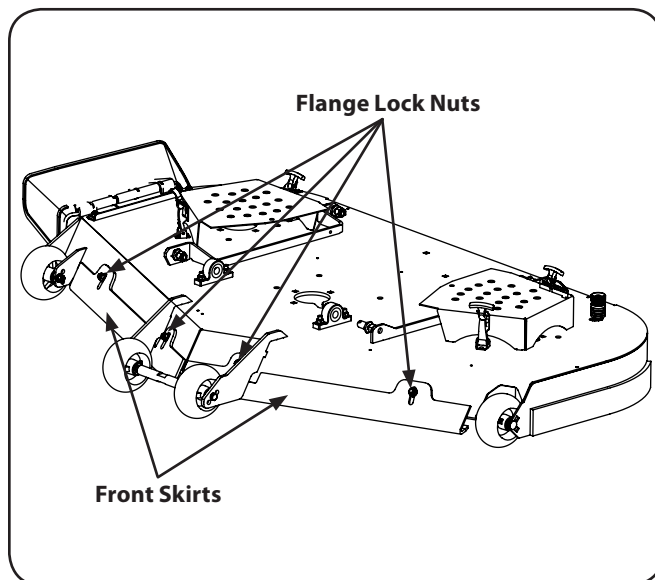

Figure 6-8
1. Loosen — but do not remove — the nuts securing the skirt, place in the proper position and then retighten the nut. See Fig. 6-8.